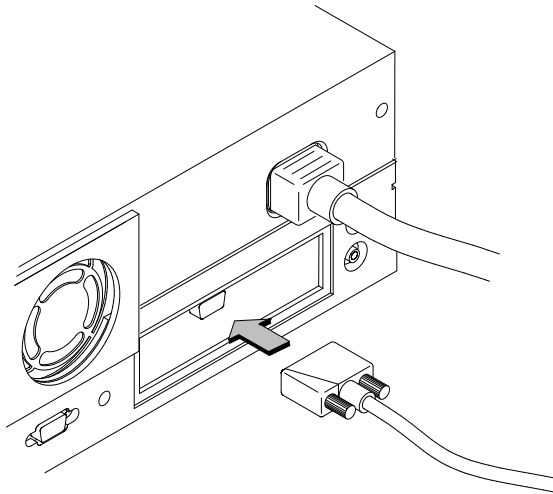

Figure 1-4. CRX and HCRX Graphics Connector
- Color graphics card (CRX-24, CRX-24Z, HCRX-8, HCRX-8Z, HCRX-24, HCRX-24Z , or VISUALIZE graphics) — This device has a D-sub miniature connector which is connected to the monitor by a cable, as shown in Figure 1-4.
Figure 1-4 shows the location of the CRX or HCRX graphics connector on the system unit's rear panel.